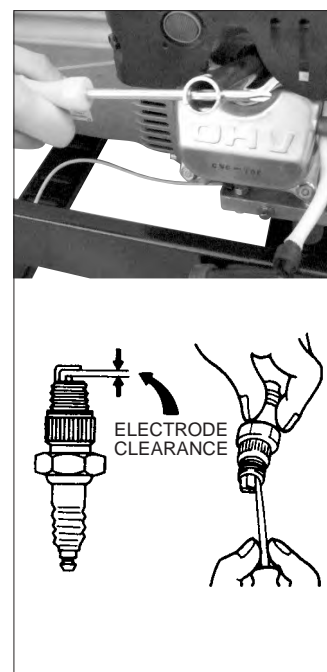

Fig. 33
5. Measure the plug gap with the feeler gauge. Correct as necessary by carefully bending the side electrode (Fig.33).